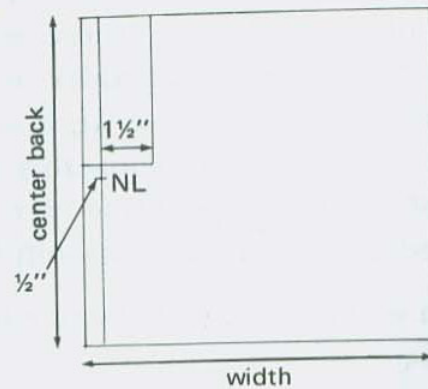

FIGURE 3-76 / STEPS A2-5
4. Measure the distance from the neck to the tape at the center back; add 1 inch and crossmark the muslin for the neckline intersection as illustrated in Figure 3-76.